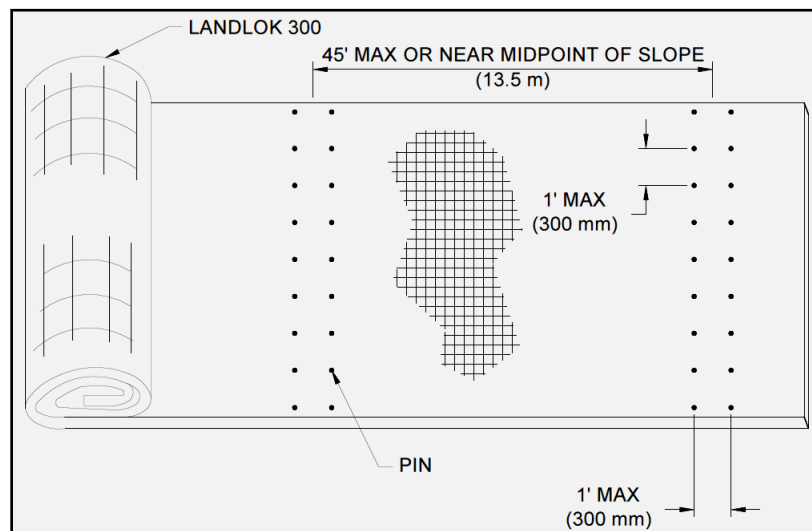

Figure 14: Simulated Check Slot
- For channel bank heights or channel bottom widths greater than 45 ft (13.7 m), install simulated check slots. This method includes placing two rows of pins 12 in (300 mm) apart on 12 in (300 mm) centers at 45 ft (13.7 m) maximum intervals or across the midpoint of the slope for slope lengths less than 60 ft (18.2 m) (Figure 14).